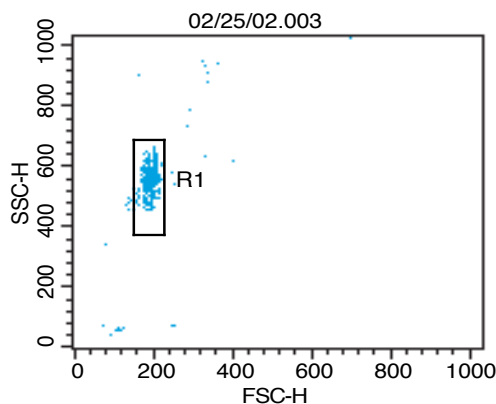

Figure 1
8. Analyze the microspheres on the flow cytometer. Using the forward scatter versus side scatter dot plot, construct a live gate around the single population of the microspheres. (Figure 1)